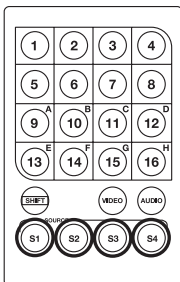

Figure 6-5. S1/S2/S3/S4 buttons on the remote control.
3. Press "S1/S2/S3/S4" to route source 1/2/3/4 to monitor 2 (M2). See Figure 6-5.